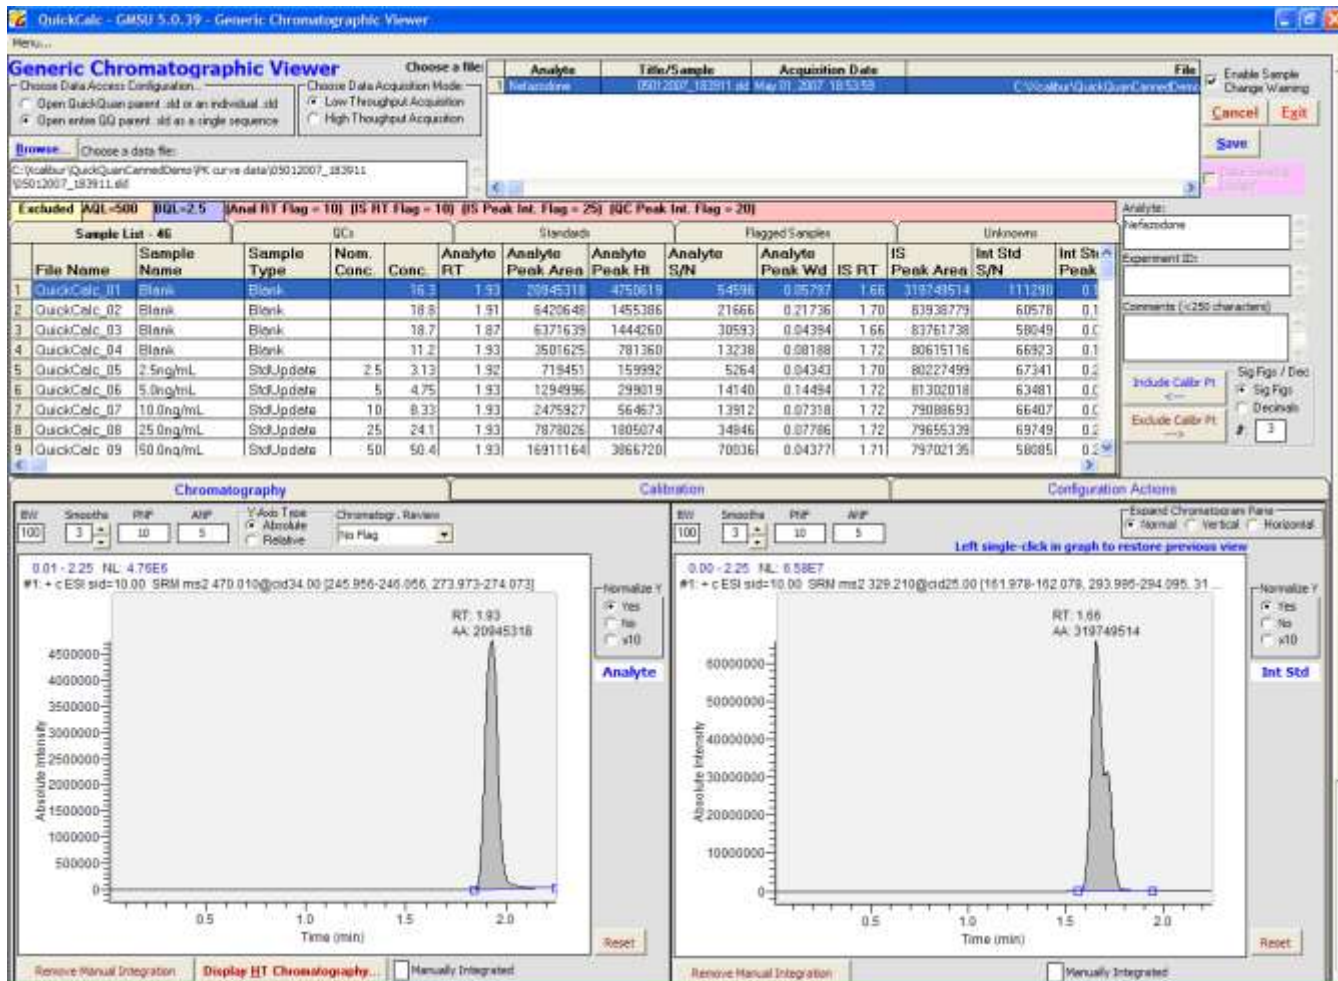

Figure 56 QuickQuan data – Open all data files within a directory
- By selecting the Choose Data Access Configuration option 'Open entire QQ parent .sld as a single sequence' to load data, GMSU/QC will not parse the different analytes acquired during the data acquisition event and list them in the sample list as they were acquired (See Figure 56).